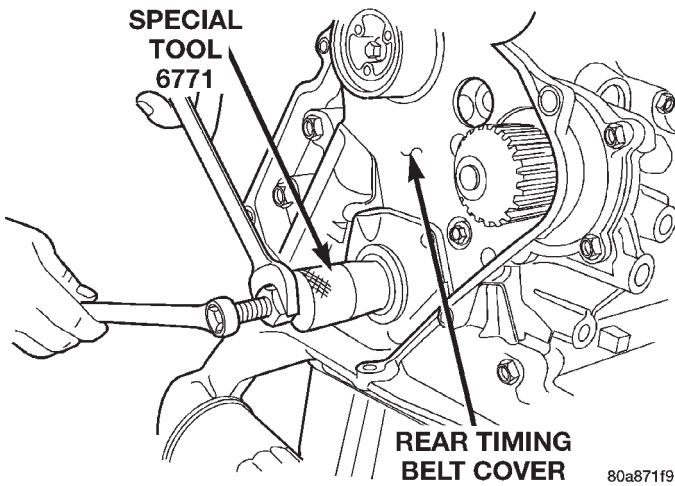

Fig. 66 Front Crankshaft Oil Seal—Removal
(4) Using Tool 6771 to remove front crankshaft oil seal (Fig. 66). Be careful not to damage the seal surface of cover.